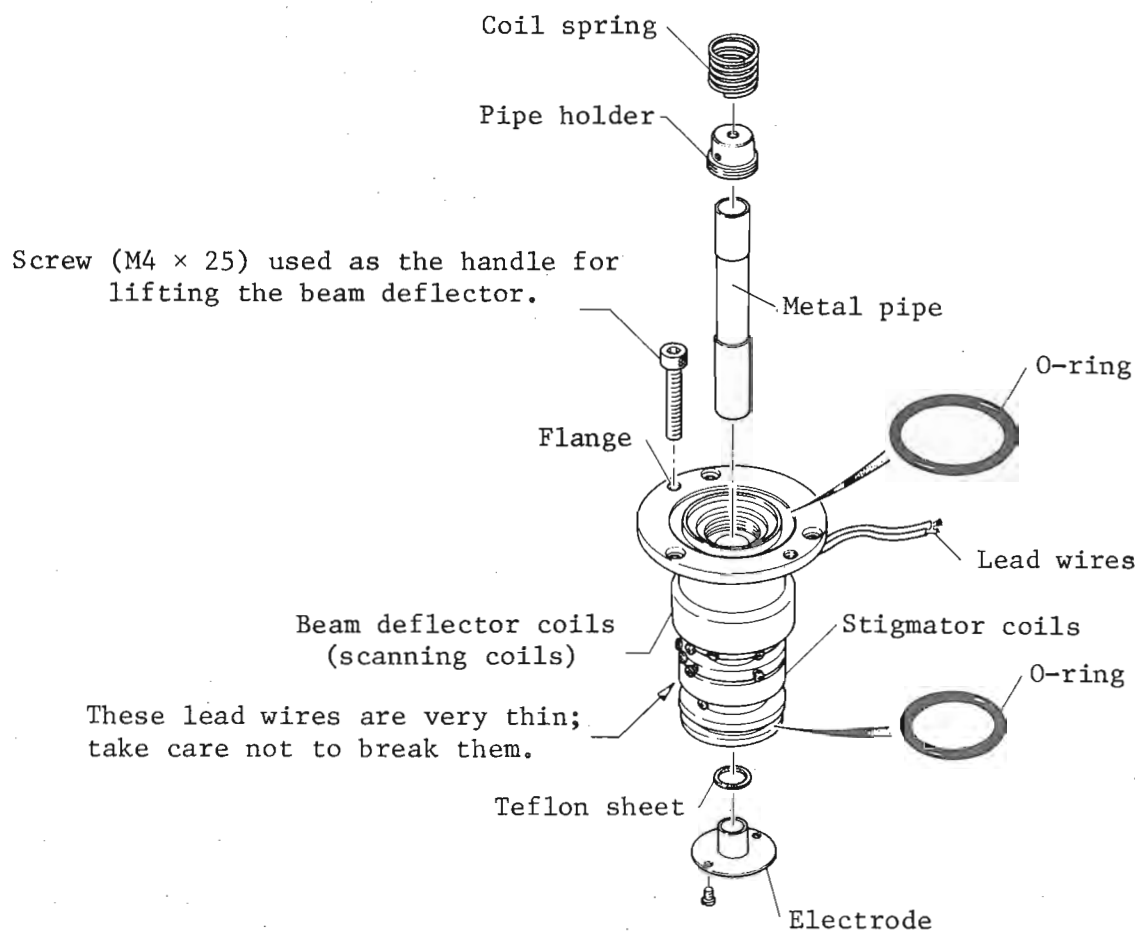

Fig. 5.9 Exploded view of the beam deflector
2. Remove the coil spring, the screw (pipe holder) securing the metal pipe, and the metal pipe itself (Fig. 5.9).
Caution: When reassembling the beam deflector, screw in the pipe holder firmly so as to be sure of properly grounding the metal pipe (Fig. 5.9). If the pipe is not properly grounded, dark spots may appear.